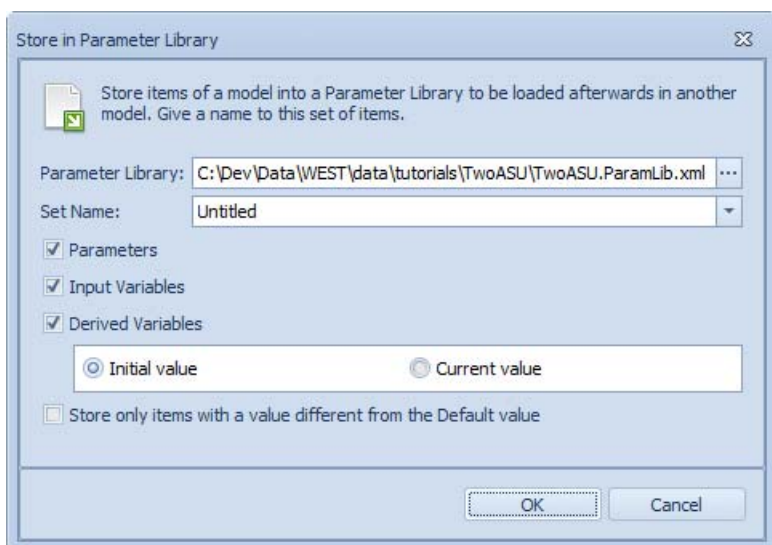

Figure 2.15 Save a new Set of model parameters into a ParamLib.xml file
- **Store** allows saving the Initial- or Current values of the Parameters, Input Variables and Derived Variables into a new Set within a specified Parameter library (cf. Figure 2.15).